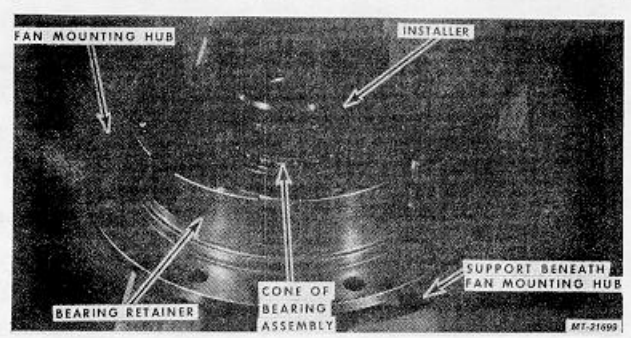

Fig. 7
4. Support beneath Fan Mounting Hub. Place installer SE-2782-10 on Bearing Assembly and press the bearing down approximately 1/16", Fig. 7.